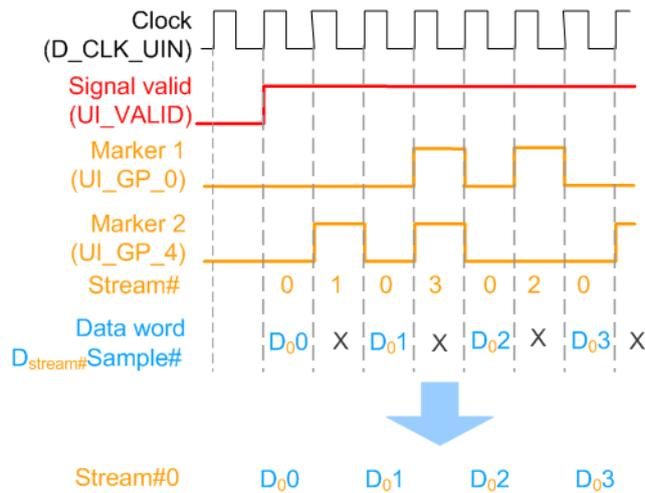

Figure 2-3: Example: Signal at the user interface of the R&S EX-IQ-Box (one multiplexed stream)
- Signal valid (UI_VALID) indicates valid samples, see Figure 2-3
- Evaluate multiplexed samples one by one (see also Figure 2-3)
The Figure 2-3 shows the multiplexed signal at the user interface of the R&S EX-IQ-Box.